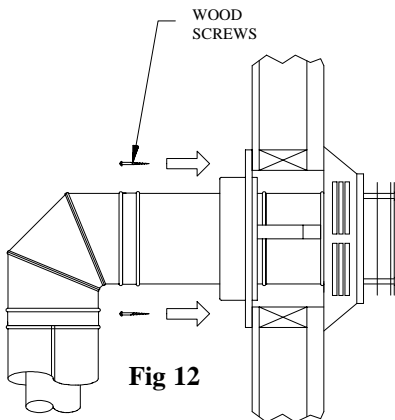

Fig 12
Step 7. Slide the Decorative Wall Thimble Cover up to the wall surface and attach to the wall with screws provided. Apply optional decorative brass or chrome trim if desired. (Fig 12)